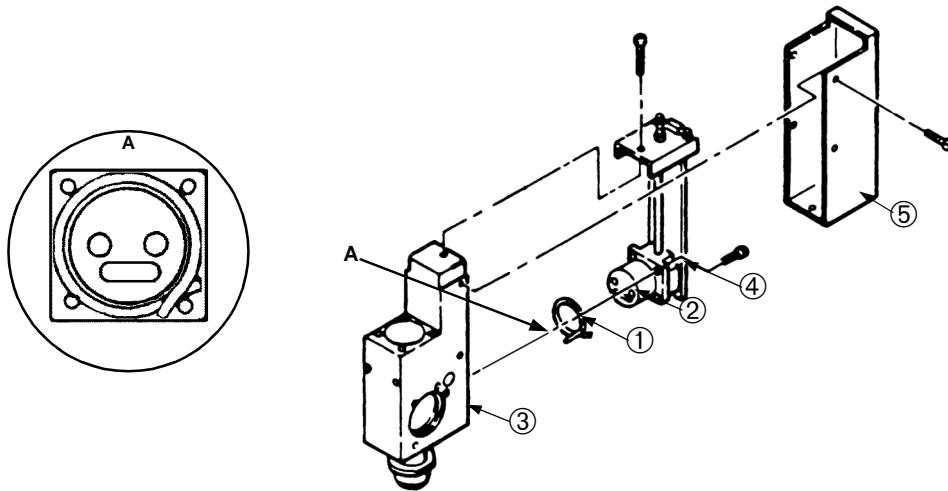
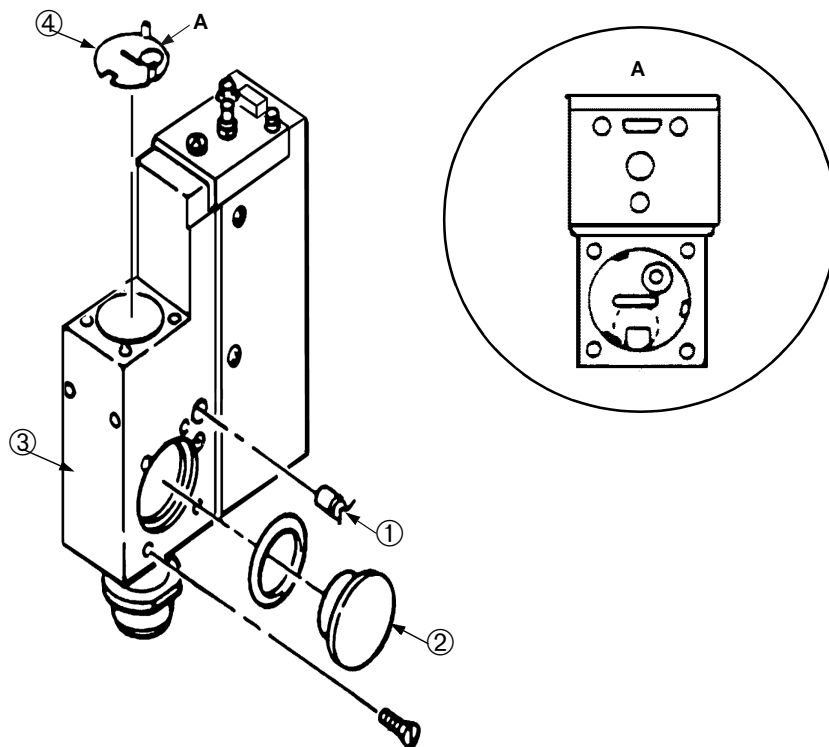
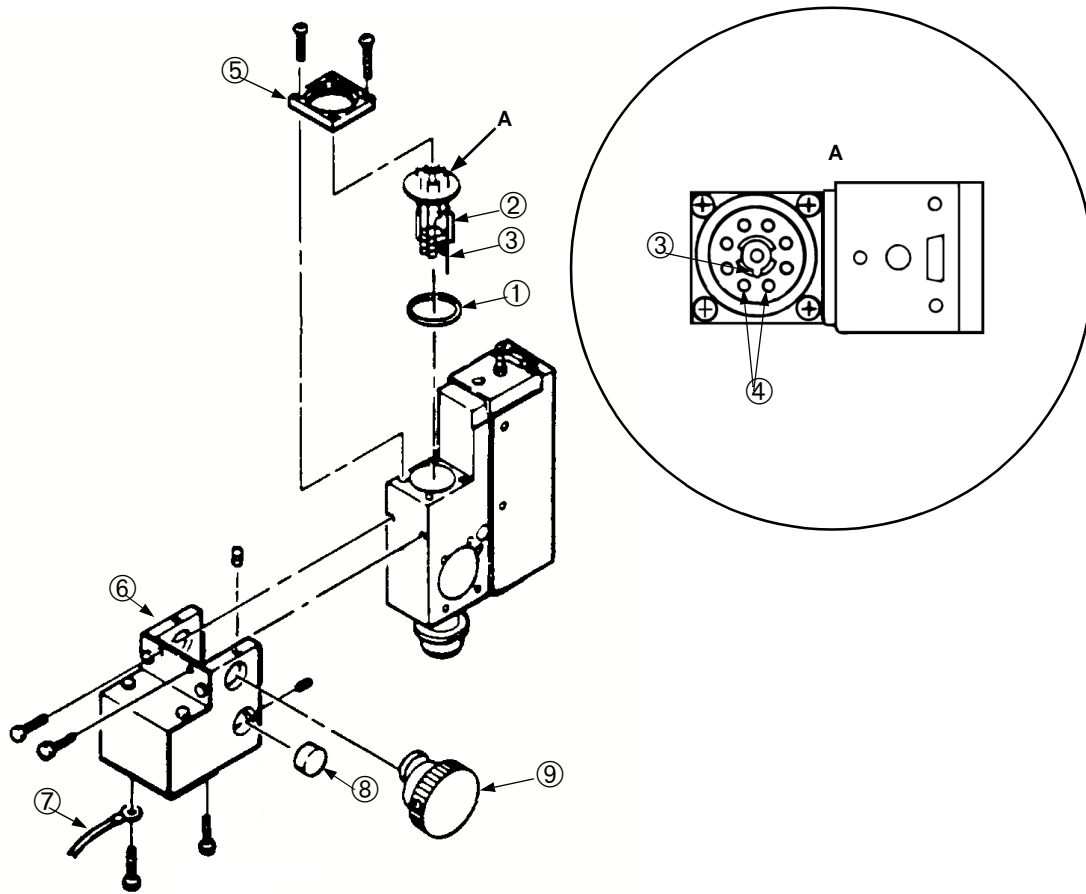

Figure 4-4 Spectrometer Tube Reassembly
Figure 4-5 Spectrometer Tube Reassembly (Ground Slit Plate)
Figure 4-6 Spectrometer Tube Reassembly (Magnet Assembly)
Refer to Figure 4-4 for step 1 through step 5, to Figure 4-5 for step 6 through step 8, and Figure 4-6 on page 4-20 for step 9 through step 13.
1. Place a new metal seal ① on the collector housing assembly ② with the ends of the seal crossed under one of the screw holes (Figure 4-4, View A).
2. Mount the collector housing assembly to the spectrometer tube body ③ with the four socket head cap screws, sized 8-32.
6. Put the heater cartridge ① back in its cavity (Figure 4-5).
7. With the new O-rings on each of the two deflection pole pieces ②, insert the pole pieces into the spectrometer tube body ③, tighten the four slotted screws on each side of the spectrometer tube, and note the positions of both the roll pin in the body and the notch in the pole piece flange used for alignment.
8. When installing the ground slit plate ④, be sure that the snap prongs are facing up, then align the slit at 90° with the side wall of the spectrometer tube, and concentrically align the circular hole in the plate with the smaller guide hole in the bottom of the ion source cavity (Figure 4-5, View A).
9. Wipe the new O-ring ① and mating surfaces with a clean, lint-free cloth and place the new ion source ② in its cavity (Figure 4-6 on page 4-20) as follows:
- ❑ Place the locating pin ③ approximately in the center of the guide hole.
- ❑ Ensure that pins 1 and 8 ④ are parallel to the side wall of the spectrometer tube as shown in Figure 4-6 on page 4-20, View A.
- ❑ Tighten the flange cap ⑤ evenly and firmly with the four Phillips head screws.